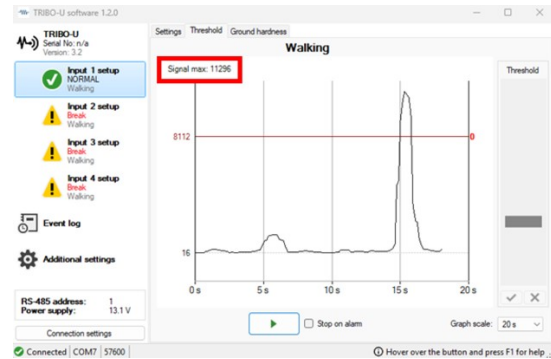

Fig. 21
- Observe the peak value of the signal displayed on the screen. (Fig. 21)